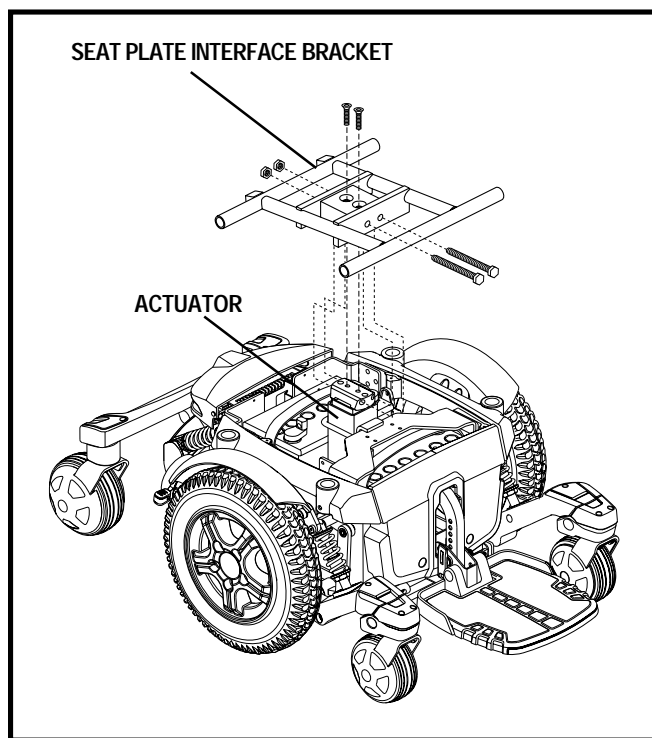

Figure 14. Power Seat Actuator
1. Place the seat plate interface bracket onto the actuator. See figure 14.